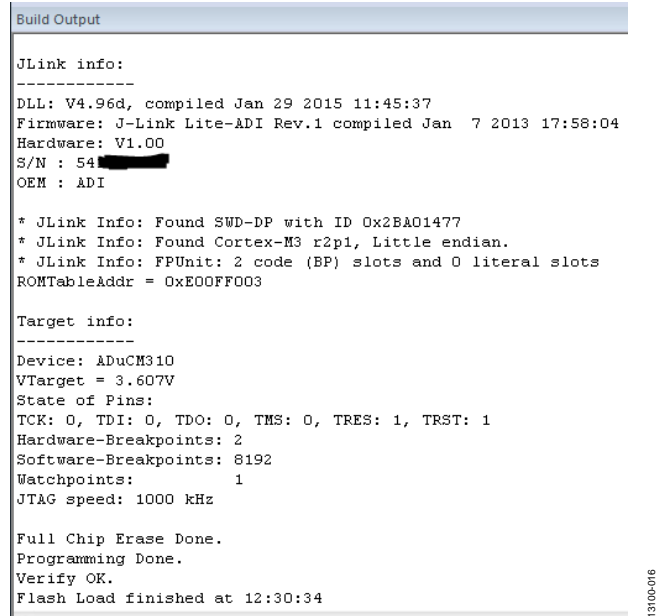

Figure 16. Download Message
- When the download is complete, the message shown in Figure 16 appears.